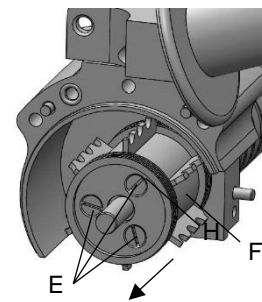

Fig. 7.3 – Serrated rail carrier
- 3) Pull out the serrated rail carrier (F) and loosen the slotted screws (E) and cover disc (H), see Fig. 7.3.